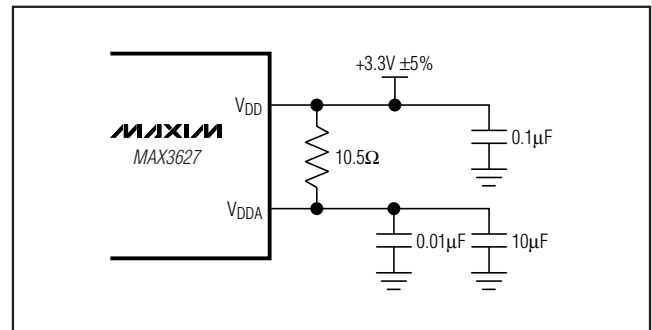

Figure 4. Analog Supply Filtering
- Note 1:** A series resistor of up to 10.5Ω is allowed between V_{DD} and V_{DDA} for filtering supply noise when system power-supply tolerance is $V_{DD} = 3.3V \pm 5\%$. See Figure 4.
| 27 | VDDA | Analog Power Supply for the VCO. Connect to +3.3V. For additional power-supply noise filtering, this pin can be connected to V _{DD} through a 10.5 Ω resistor as shown in Figure 4. |
The MAX3627 is a mixed analog/digital IC. The PLL contains analog circuitry susceptible to random noise. To take full advantage of on-board filtering and noise attenuation, in addition to excellent on-chip power-supply rejection, this part provides a separate power-supply pin, VDDA, for the VCO circuitry. The purpose of this design technique is to ensure clean input power supply to the VCO circuitry and to improve the overall immunity to power-supply noise. Figure 4 illustrates the recommended power-supply filter network for VDDA. This network requires that the power supply is +3.3V ±5%. Decoupling capacitors should be used on all other supply pins and placed as close as possible to the pins for best performance.